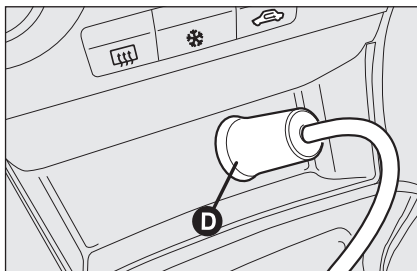
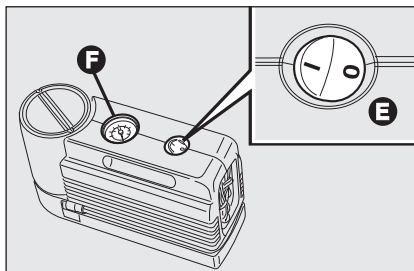

fig. 14
fig. 15
- make sure the compressor switch **E-fig. 15** is set to **0** (off), start the engine and fit plug **D-fig. 14** into the cigar lighter outlet and then turn on the compressor by setting switch **E-fig. 15** to **I** (on). Inflate the tyre to the pressure specified in paragraph “Cold tyre inflation pressure” in section “Technical specifications”. Check tyre pressure on gauge **F-fig. 15** with compressor off to obtain precise reading;